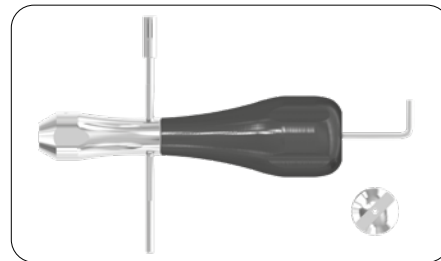
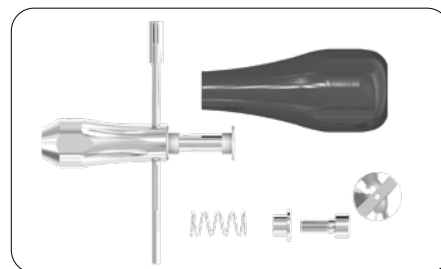

Fig. 5
Fig. 6
Unscrew the cylindrical screw concealed beneath it with the tomas®-screwdriver key 3.0 screwdriver (Fig. 5) and dismantle the tomas®-screwdriver (Fig. 6).